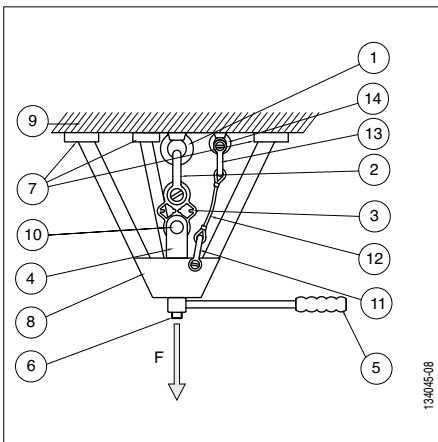

Fig. 6
- 1 manually-operated loaded device, tripod type (see fig. 6, section 4.2, page 11),
- 1 safety device to secure the loading device in the event of shearing of the anchor point tested, comprising of (see fig. 6, page 11):
- 1 safety sling of appropriate length (see fig. 6, sections 4.2 and 4.3, page 11),
⚠ DANGER: To test an anchor point using the TA test plate, the operator must use a manually activated tripod loading device specifically designed and sized for placing under traction load without risking the anchor point to be tested (fig. 6, page 11) or any other apparatus placed under a load in traction of the TA test plate especially designed and sized to be used in complete safety.
Refer to fig. 6 for the procedure detailed below.
All of the procedure described below relates to fig. 6.
- 1) Gradually increase the load by acting on the loading device (fig. 6, page 11, item 8). The operator must continuously observe the plate in order to stop the loading operation immediately on shearing of the 'S' section of the plate (fig. 9).
Refer to figure 6, page 11, for the procedure detailed below.